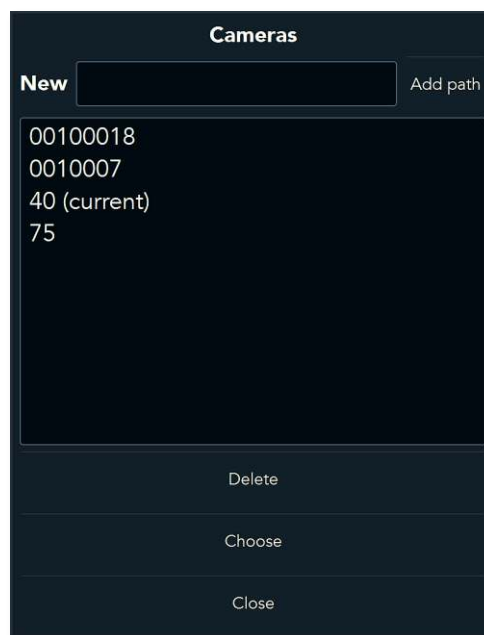

Figure 223 – The Main Menu – Calibration window – Camera selection dialog-box
- The **Settings command-button** – reactivate the calibration process. Once selected, the **Camera Selection** dialog-box will re-open (see Figure 223 in page 179 below) and the process of calibration will restart from the below step (g) (see page 179). Reactivating the calibration process from the beginning might be required if the camera is different than the one defined for the calibration.